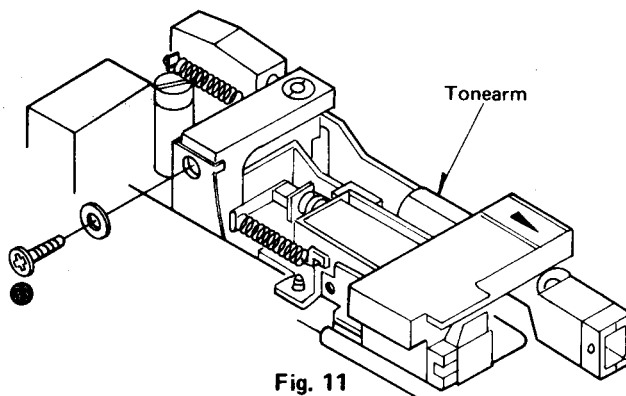

Fig. 11
5. Remove the setscrew of the tonearm. (Fig. 11 : 33)